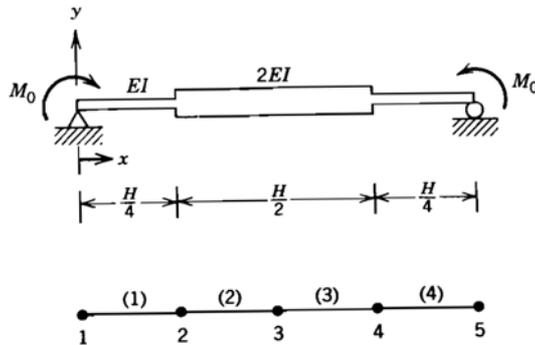

Figure 4
1. Obtain the final system of finite element equations for the nodal deflections of the stepped beam shown in Figure 4. Solve the equations and calculate the deflection at $x=3H/16$.